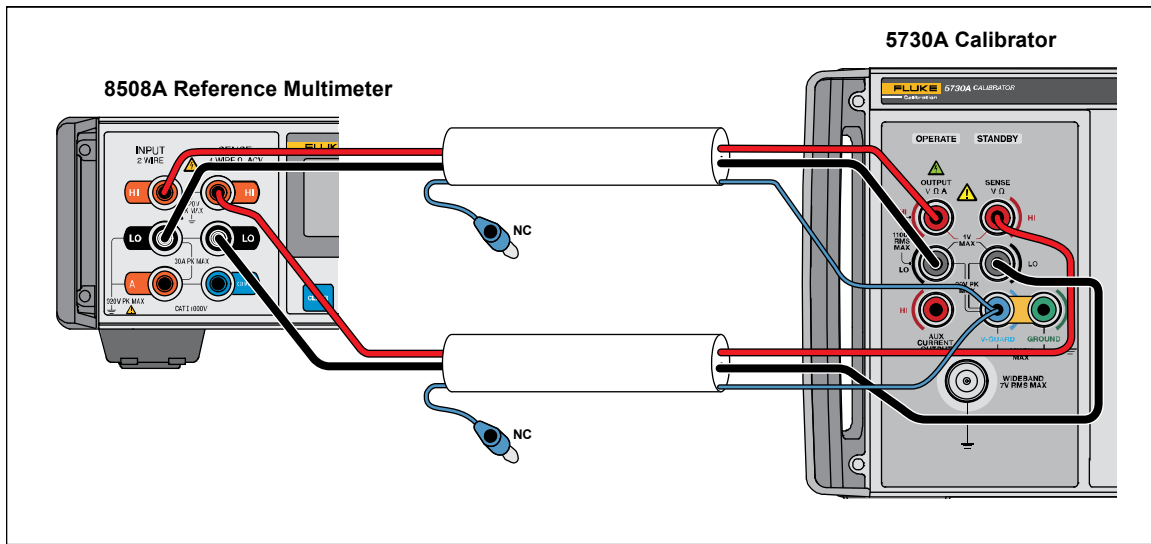

Figure 10. 0 Ω , 1 Ω , 1.9 Ω Resistance Verification
1. Connect the DMM to the Product as shown in Figure 10 using the 5730A-7003 cables.
8. Connect the DMM to the Product as shown in Figure 10.